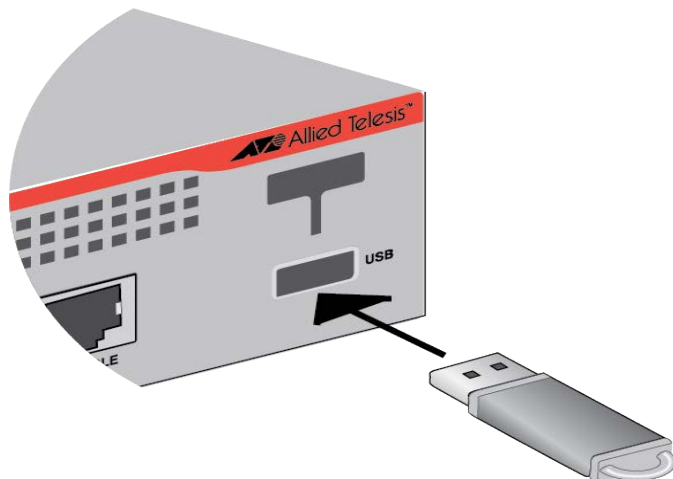

Figure 57. Installing a USB Device
1. Insert the USB device in the USB port. Refer to Figure 57.